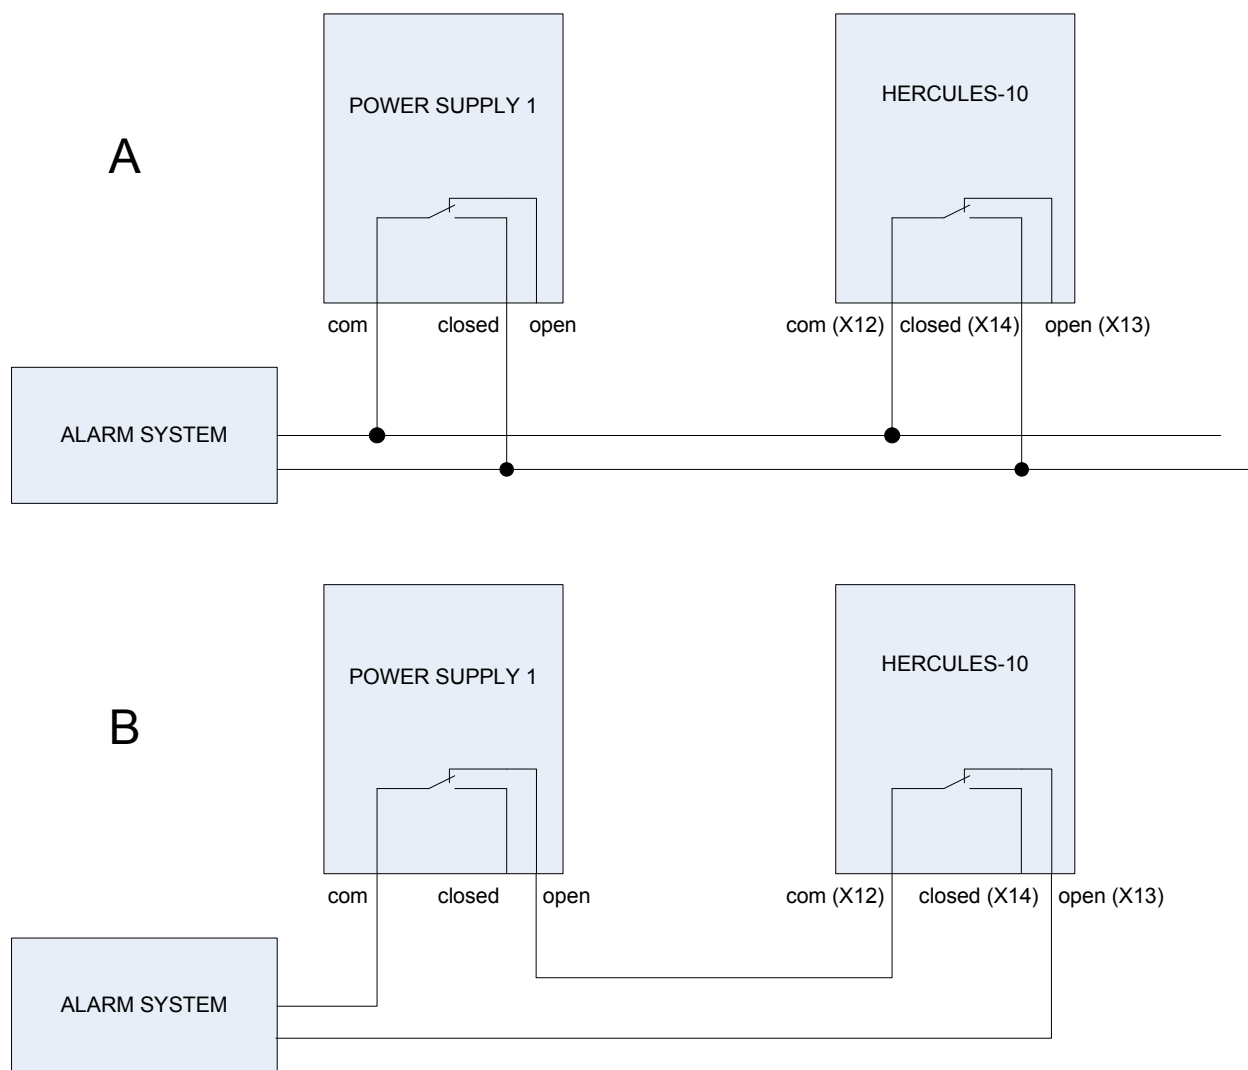

Fig. 3. Connection diagram of the alarm system, operating at closing (A) / opening (B) of the circuit.
8. Connecting the Unit to the external alarm system should be performed in accordance with Fig. 3. Connect alarm wire assembly to the terminals XS5. In variant when alarm system operates at closing of the circuit, connect terminals X12, X14 (Fig.3 “A”). In variant when alarm system operates at opening of the circuit, connect terminals X12, X13 (Fig. 3 “B”).